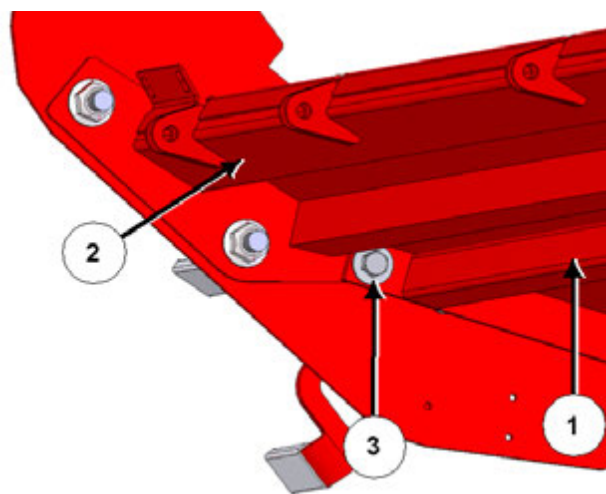

Figure 22: Re-install bottom door
3. If there is a feed chopper installed, re-install the bottom door (1); see Figure 22.
- a. Supporting the bottom door (1), fasten the door to the lower sheet (2) and the front and rear tub walls using the previously removed hardware (3).